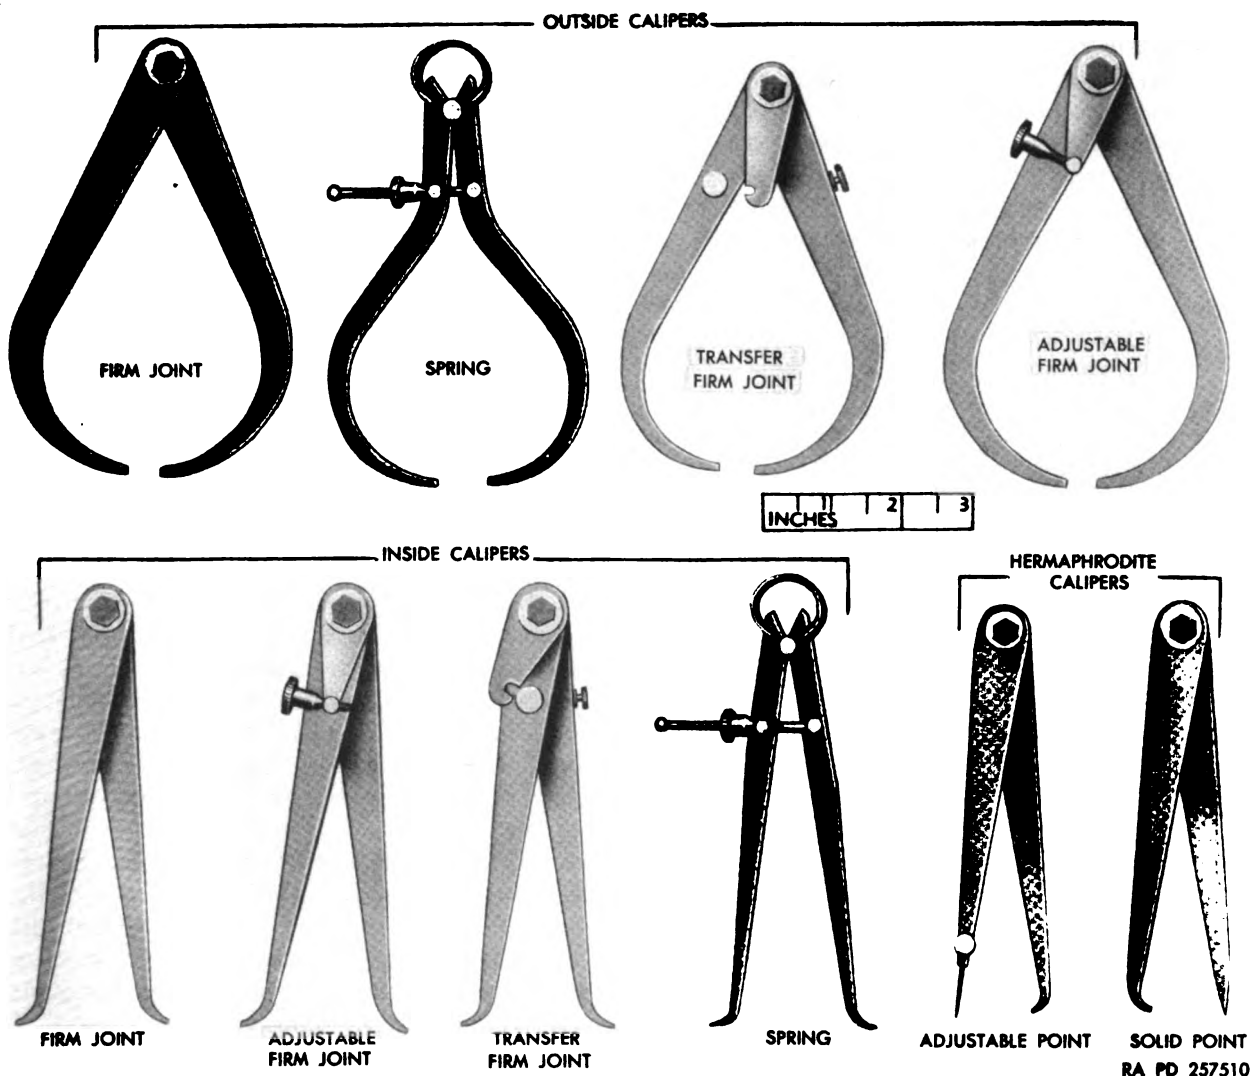

Figure 40. Calipers—noncalibrated.
b. *Outside Calipers.* Outside calipers (fig. 40) are used to measure distances over and around adjacent surfaces and to transfer the measurements to a rule. Several types are made in several sizes to accommodate a wide range in measurement. The size of the caliper is expressed in terms of the maximum dimension it is capable of measuring. A 3-inch
c. Inside Calipers. Inside calipers (fig. 40) have the same general function as outside calipers except that where the latter are used in measuring distances over outside surfaces, the inside caliper is used in measuring distances between inside surfaces. The points are rounded so that they are slightly ball-shaped. This ball shape establishes the point of contact, and in inside calipering where the surfaces are likely to have an inside curvature error might occur if the radius of the hole being calipered were less than the radius of the points. Some inside calipers are equipped with an adjusting screw on one leg which provides a fine adjustment of the caliper legs.
d. Hermaphrodite Calipers. Hermaphrodite calipers (fig. 40) are a cross between a divider and an inside caliper, having one leg of each. These calipers are used for scribing parallel lines from an edge or for locating the center of cylindrical work. Some are equipped with an adjustable point.